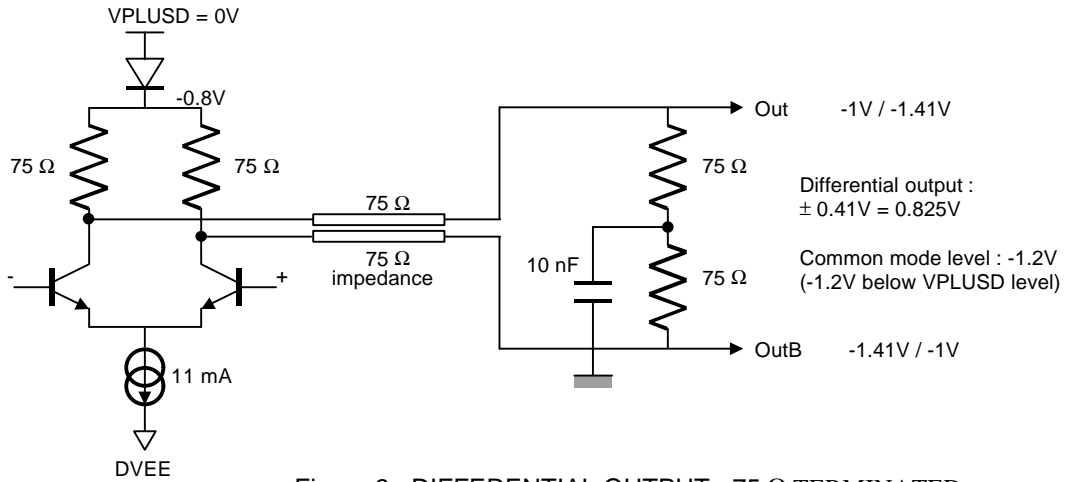

Figure 3 : DIFFERENTIAL OUTPUT : 75 Ω TERMINATED
The TS8388BF differential output buffers are internally 75 ohms loaded. The 75 ohms resistors are connected to the digital ground pins through a -0.8v level shift diode (see Figures 3,4,5 on next page).
1) 75 Ohms impedance transmission lines, 75 ohms differentially terminated (Fig. 3) :